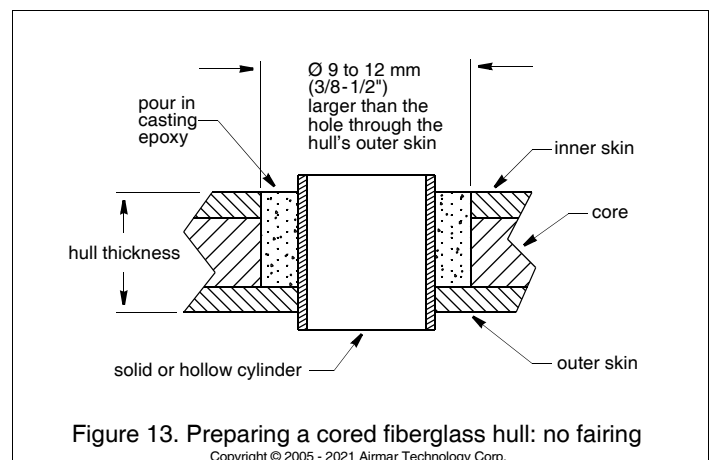

Figure 13. Preparing a cored fiberglass hull: no fairing
**No fairing**—Drill perpendicular to the *hull* (Figure 13).